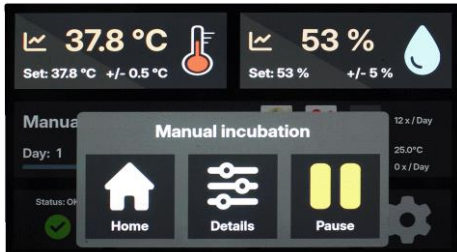

fig. 5
- ➔ The menu opens (fig. 5) with the options “Home” (return to the home screen), “Details” (displays all details of the current program), and “Pause” (pause the incubation program).